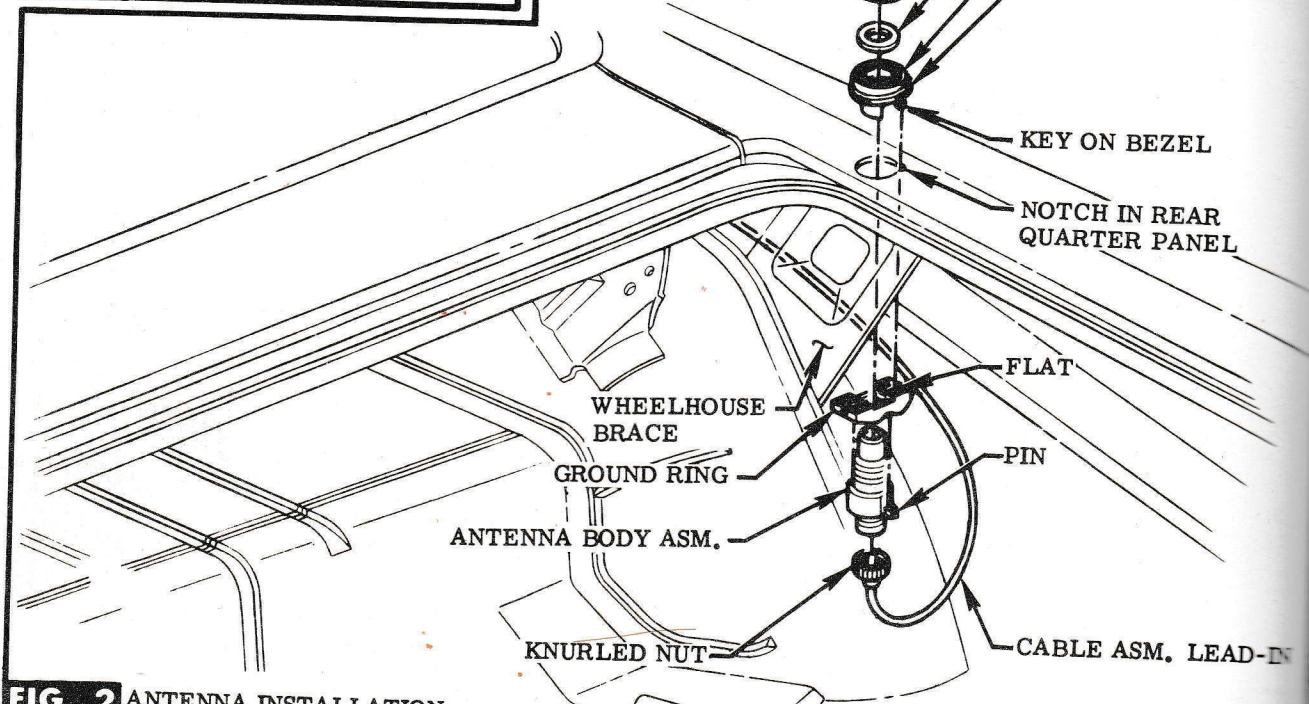

FIG. 2 ANTENNA INSTALLATION
STEP 2 PULL KNURLED NUT END OF CABLE ASM. OUT OF DRILLED HOLE IN REAR QUARTER PANEL & CAREFULLY ATTACH TO ANTENNA BODY WITH GAS PLIERS. SEE FIG. 2.
ANTENNA BODY & TIGHTEN CAREFULLY WITH OPEN END WRENCH. SEE FIG. 2.
STEP 4 ASSEMBLE GROUND RING ON PINS OF ANTENNA BODY, TILT LENGTHWISE & LOWER THRU HOLE IN REAR QUARTER PANEL. RAISE ANTENNA BODY & POSITION FLAT OF GROUND RING DIRECTLY BELOW NOTCH IN PANEL. SEE FIG. 2
STEP 5 SUB-ASSEMBLE GASKET TO BEZEL. PLACE OVER ANTENNA BODY & SLIP KEY ON BEZEL THRU NOTCH IN REAR QUARTER PANEL INTO FLAT OF GROUND RING. SEE FIG. 2.
STEP 6 PLACE SEAL OVER ANTENNA BODY & INSERT IT INTO GROOVE OF BEZEL. PLACE CAP OVER ANTENNA BODY & TIGHTEN IT WITH OPEN END WRENCH. SEE FIG. 2.